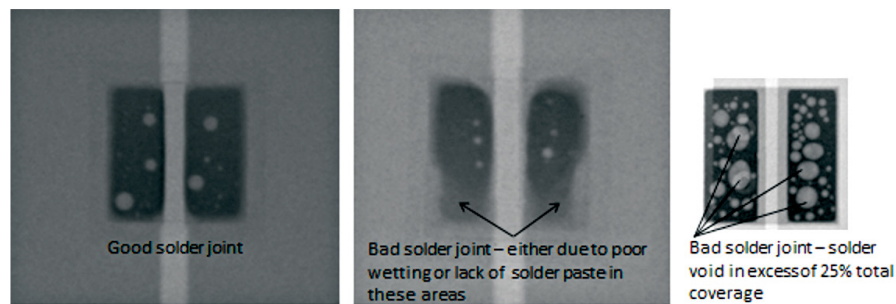

Figure 32. Example of good and bad x-ray result on a two pad LED emitter (for illustration purposes).
1. Solder voids (Figure 32) — perform x-ray inspection. Keep solder void to less than 25% coverage of the pad area as recommended by IPC-A-610 “Acceptability of Electronic Assemblies” document)